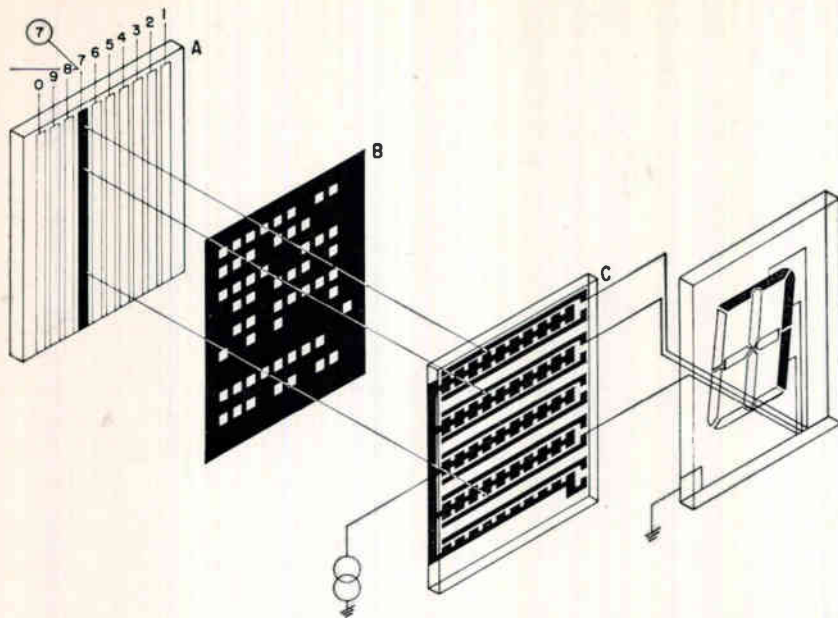

FIG. 4—Translator replaces electromechanical switches in display
always desirable because of either high power requirements or the need for automatic control of the display. The numeric translator shown in Fig. 4 has been developed. Plate A, which contains ten EL bar lamps, represents the decimal input. A second plate (C) contains nine PC cells. Plates A and C are aligned and placed together, forming a sandwich with a light mask or switching matrix B in between.